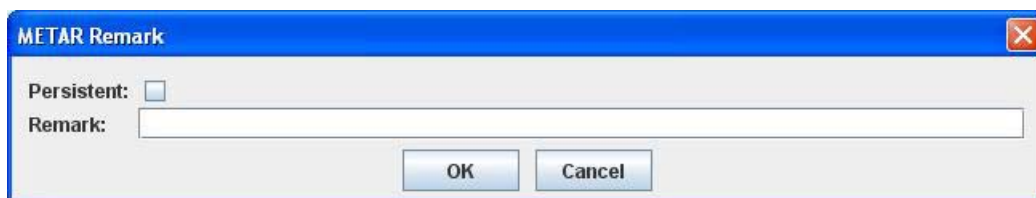

Figure 79. METAR Remark Screen
1. Click **METAR Remark** on the *Reports* menu. The screen shown in Figure 79 will appear.